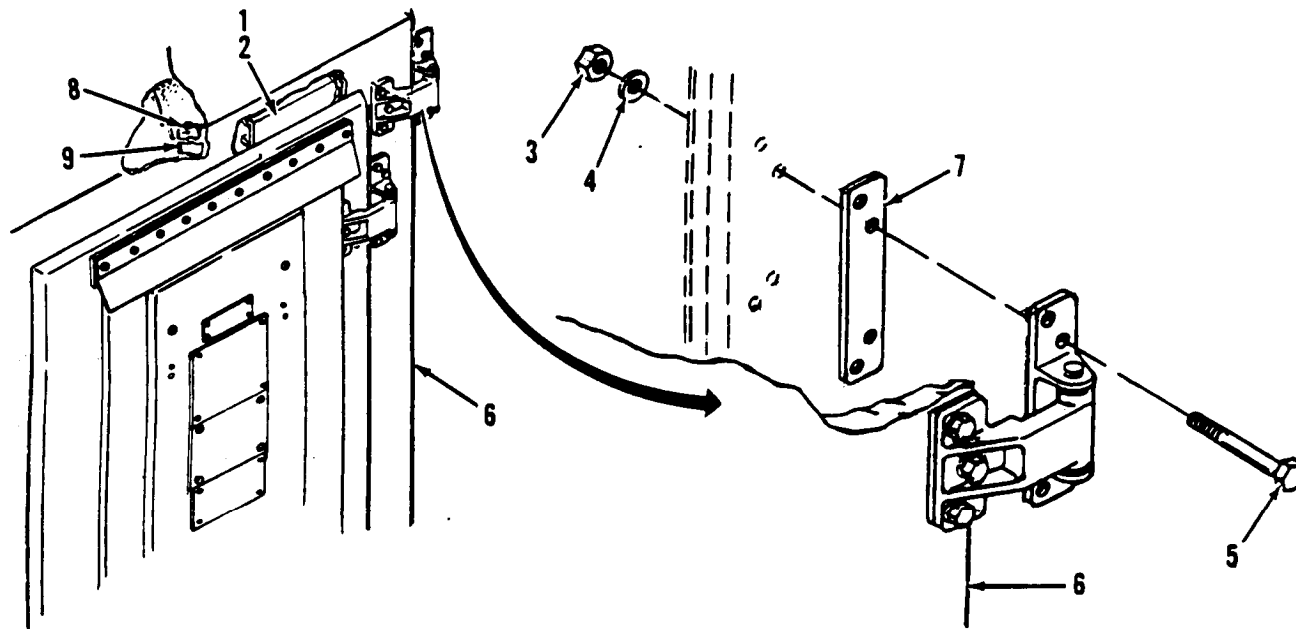

Figure 3-18. Outer Door Assembly Replacement.
a. Inspect. (Figure 3-18)
- (1) Inspect the outer door assembly (6) for external damage.
- (2) Inspect the silicone weather gasket (8) for tightness.
- (3) Inspect the RFI/EMI gasket (9) for wear and secure mounting on shielded shelter.
- (4) Inspect the door for positive closing and proper operation.
b. Remove. (Figure 3-18)
- (1) Remove and retain three phillips head screws (1) attaching door stay channel (2) to door panel, and pull channel away from door panel.
- (2) Remove and retain four nuts (3), lock washers (4), and hex head screws (5) attaching each of the three hinges to shelter.
- (3) Remove outer door panel (6) and three hinge spacers (7).
(5) Door hasp replacement (paragraph 3-22).
*a* . Install. (Figure 3-18)
- (1) Coat both sides of each hinge spacer (7) with conductive compound.
- (2) Position each spacer (7) and outer door assembly (6) in place and secure each hinge to shelter with four hex head screws (3), lock washers (4), and nuts (5).
- (3) Position door stay assembly channel (2) in place and secure to outer door panel (6) with three phillips head screws (1).
- (5) Apply a continuous bead of sealer around spacer (7) and hinge bracket, and around head of screws (5).